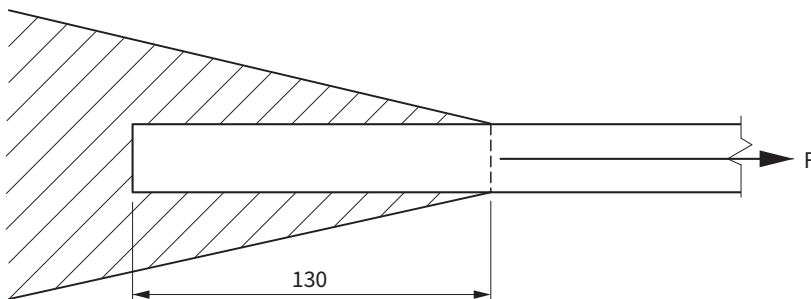

Figure 2
1. Calculate the maximum effective span for a  $457 \times 191 \times 89,7$  kg/m structural steel beam able to carry a 375-kN point load at mid-span. The self-weight of the beam must be included in your calculations. Use a bending stress of 175 MPa. (8)
2. Figure 2 shows a tie bar (F) welded to a gusset plate by means of TWO 8-mm side fillet welds.